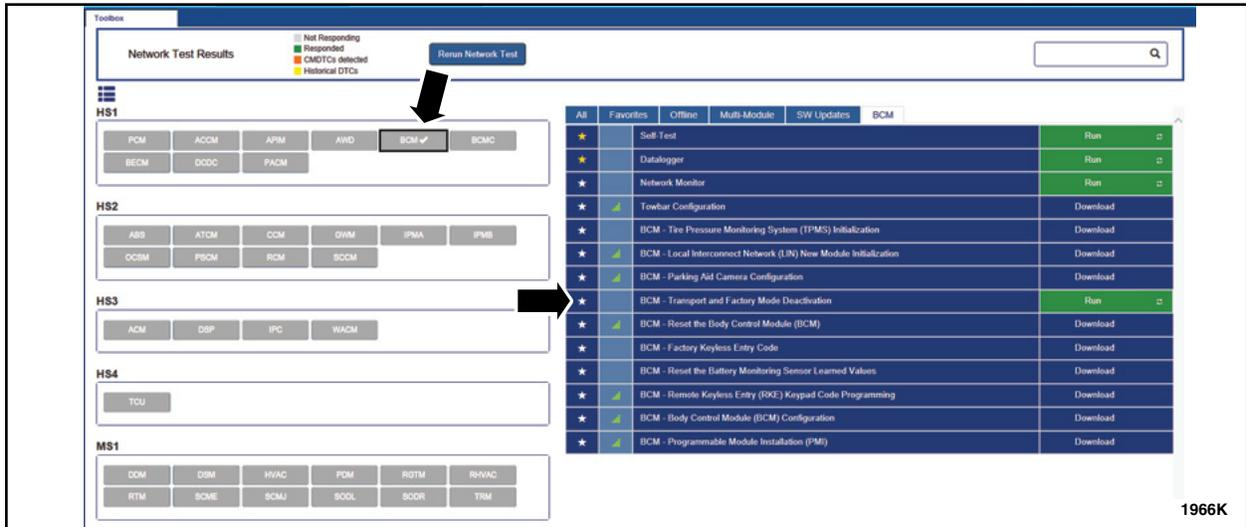

FIGURE 10
11. Connect Ford Diagnostic and Repair System (FDRS) to activate "Normal Mode Setting". Select BCM and then "Transport and Factory Mode Deactivation". See Figure 10.